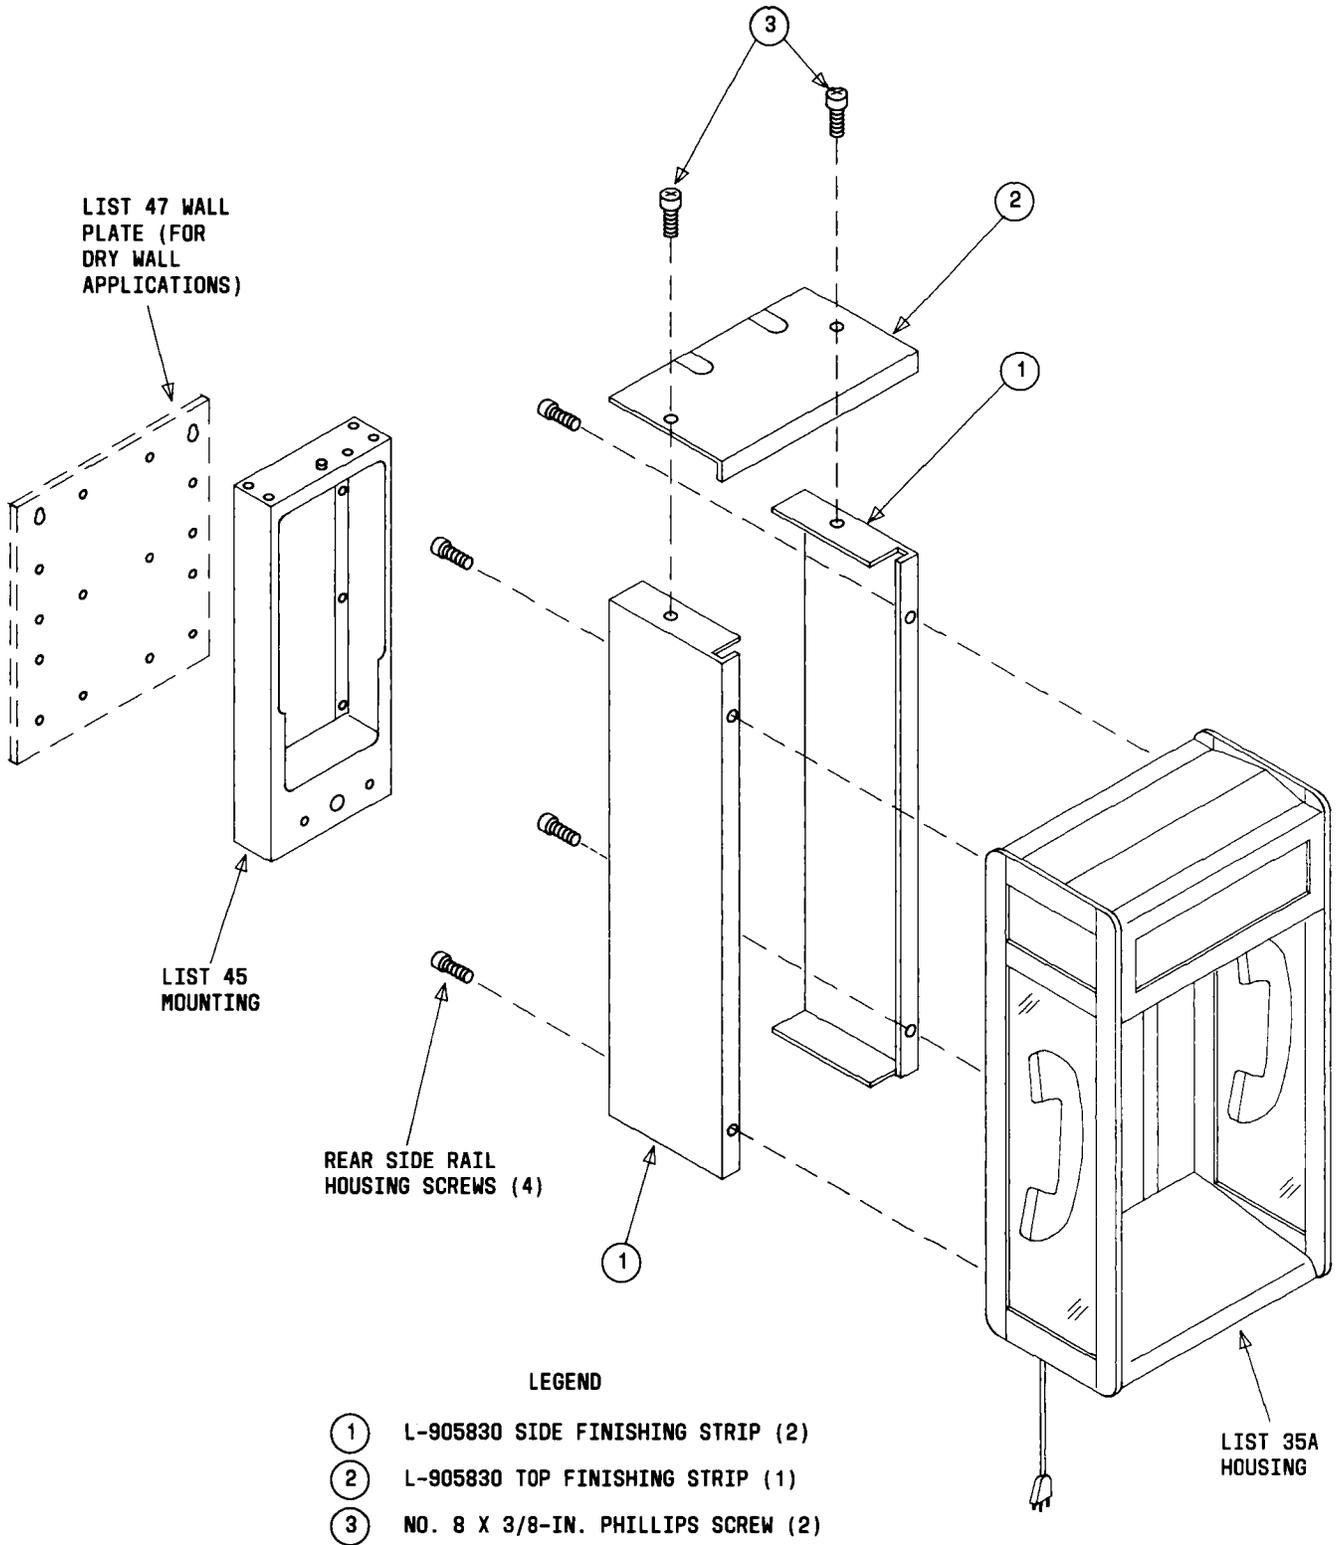

Fig. 35—List 35A Housing Assembly With List 45 Mounting and List 62 Finishing Strip Kit
3.32 List 35A Housing Assembly With List 45 Mounting and List 62 Finishing Strip Kit (Fig. 35).